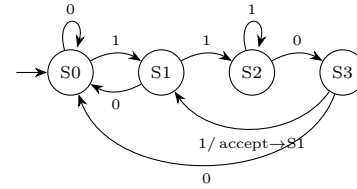

Fig. 15. Moore FSM for the overlapping detector 1101. On accepting, the final 1 overlaps the next match, so control returns to S1, not S0.
A. A Moore detector needs one state per matched prefix: S0 (nothing), S1 (saw 1), S2 (saw 11), S3 (saw 110); the output asserts on the transition into the accepting condition after S3 sees the final 1. The subtlety that *overlapping* introduces (Fig. 15) is where you go on a mismatch: after accepting 1101, the trailing 1 is itself the start of a new match, so you return to S1 (not S0); and from S2 (11) a 1 keeps you in S2. Getting those two mismatch/overlap edges right is the whole point of the problem—enumerate the next state for *both* input values in *every* state (§IV).